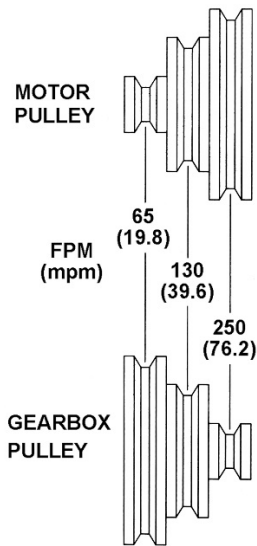

Figure 7-3: blade speeds (rounded off)
4. Move belt to desired pulley combination. Refer to chart inside pulley box (reproduced in Figure 7-3).
5. Turn handle (D) clockwise to tension belt. Finger pressure on belt midway between pulleys should cause approximately 1/2-inch deflection. Do not overtighten belt.